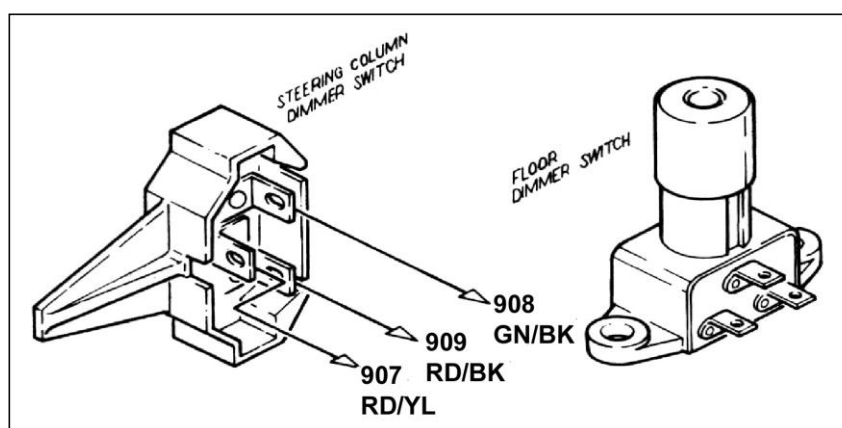

Figure 8-3D Dimmer Switches (Push Button Style – Painless Part #80150)
8.3.5 Connect the DIMMER SWITCH SECTION to your floor-mounted Dimmer Switch or column-mounted Dimmer Switch. Refer to **Figure 8-3D**